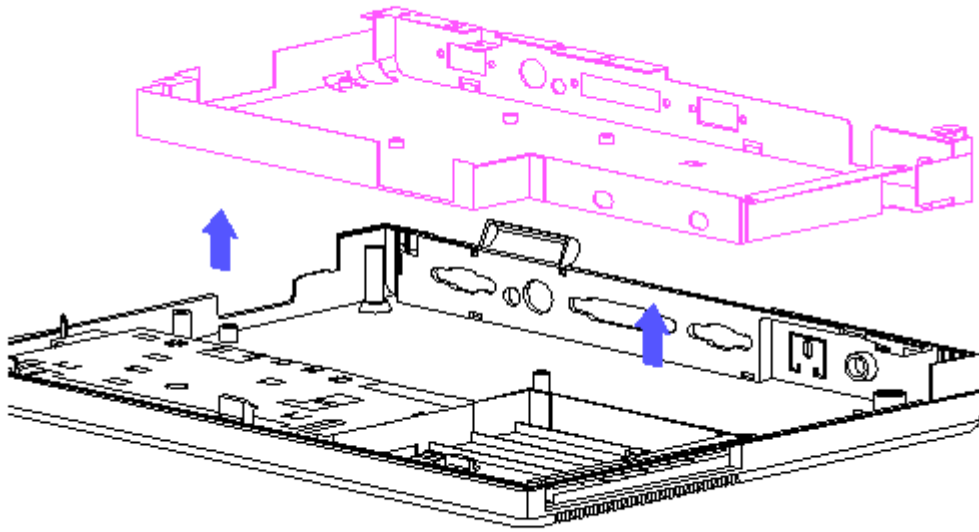

Figure 2-38. Removing the System Chassis
11. Remove the system chassis by gently separating it from the computer base and pulling up on the system chassis (Figure 2-38).